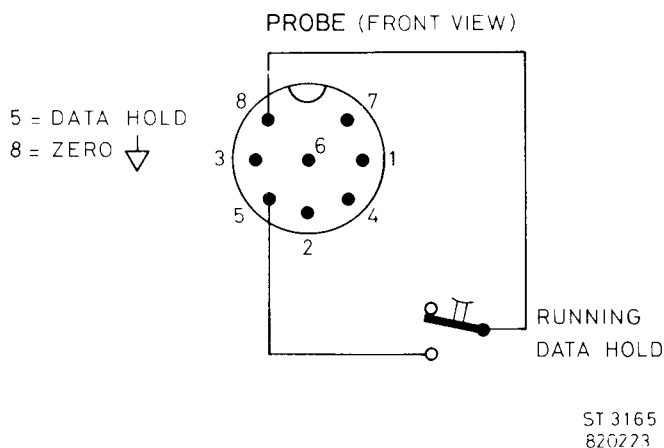

Fig. 19. Data Hold connection
- Push the slide switch on the probe to position HOLD, towards the probe tip (Refer to Fig. 19).